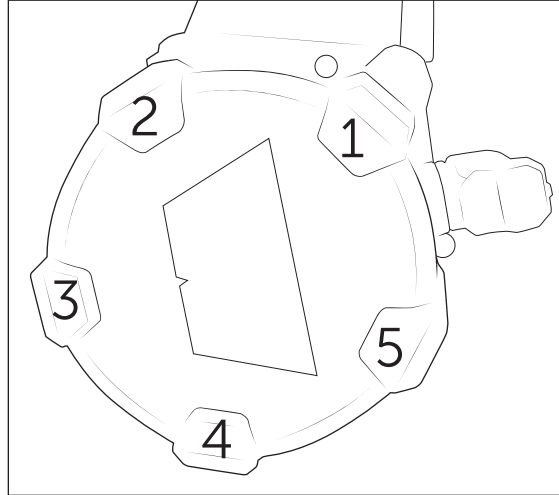

Figure 1
1. Using a T-25 remove the 5 screws from the housing box, rotate the housing box to the desired angle. In the case of interfacing with our bumper, the intended handle position is between locations 2 and 3 (fig. 1). Use the Warn logo for location reference.